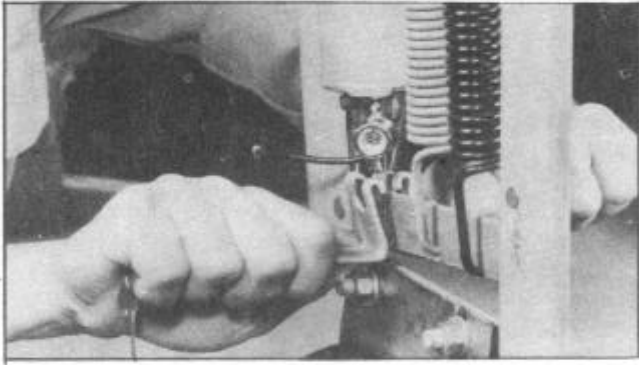

FIGURE 118
2. Clamp the regulator cross arm in a vise and remove upper and lower spring steel retaining clips, using tool KM0-623, Figure 118, and remove cylinder.